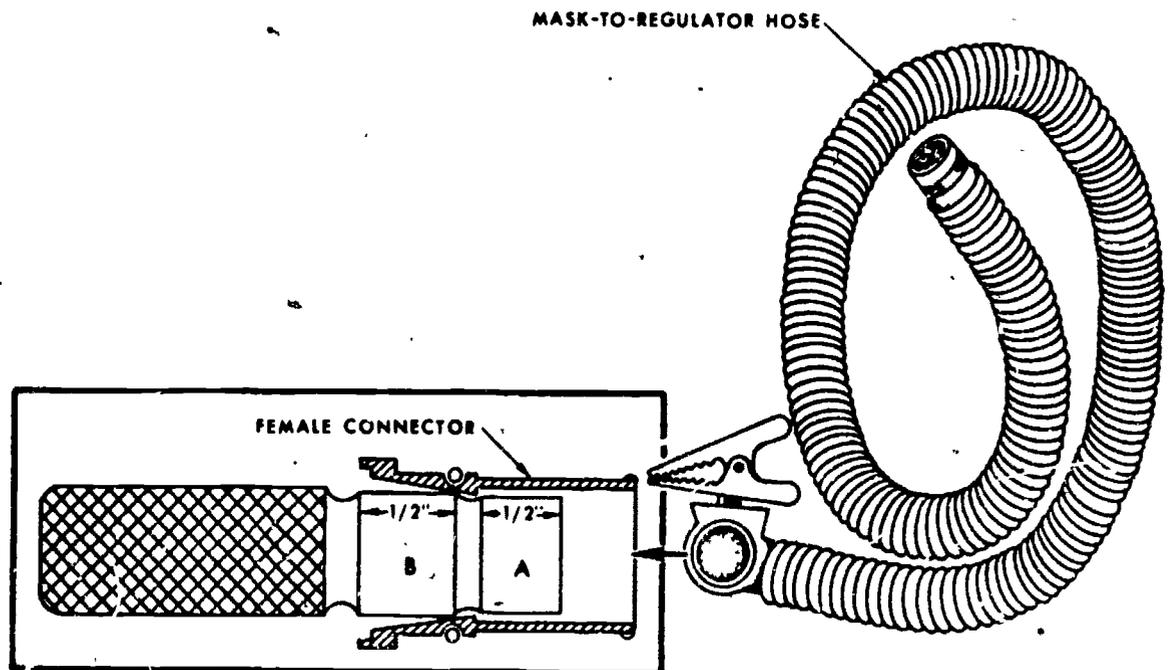

Figure 2. Using the GO-NO-GO Gage.
3. Put the gage in the female connector of the mask-to-regulator hose, as shown in figure 2. Push the gage straight in, but do not force it. A slight rocking or twisting motion may be used.
4. The "GO" part of the gage (A) is small and should slip through the smallest internal diameter of the connector. The "NO-GO" part (B) should not go through the small part of the connector. If it does, the connector has too much wear, and must be replaced.